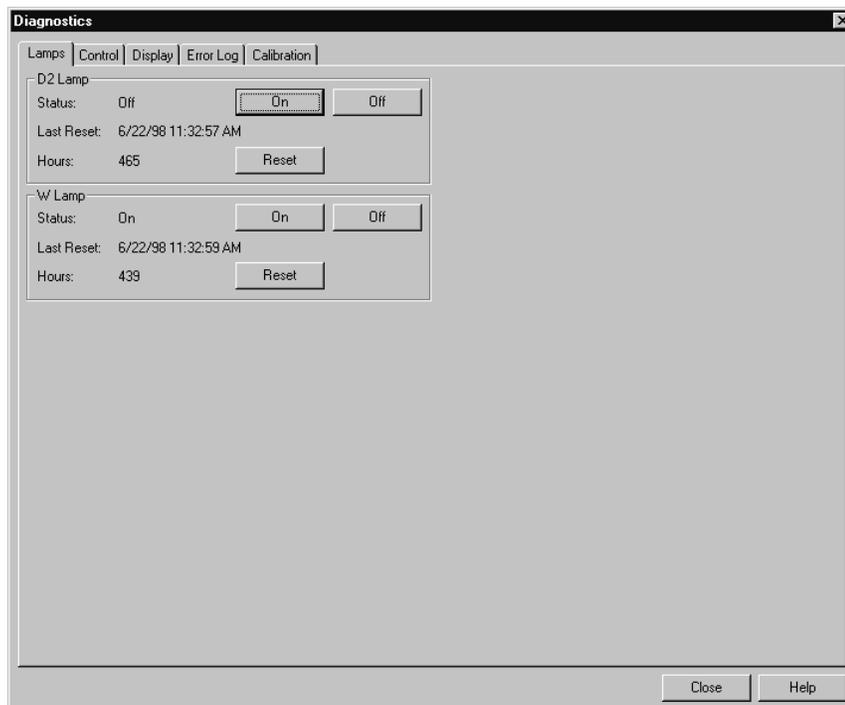

Figure 5.1 The Diagnostics dialog box
4. Right-click in the UV6000 Instrument Status window to open a shortcut menu. Select Diagnostics from the shortcut menu. The UV6000LP Diagnostics program will open with the Lamps page displayed (Figure 5.1).